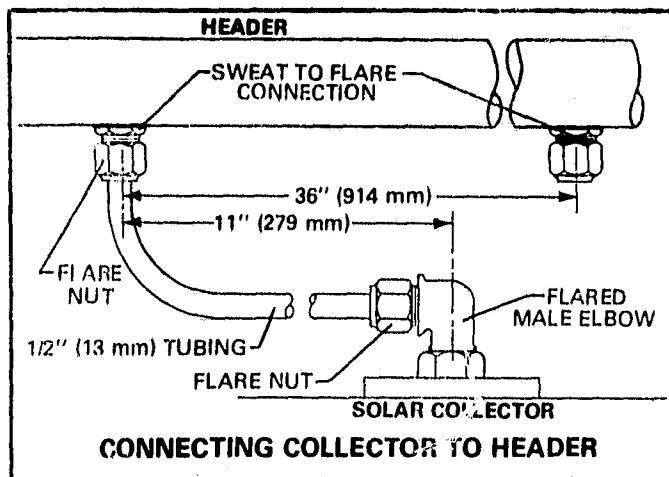
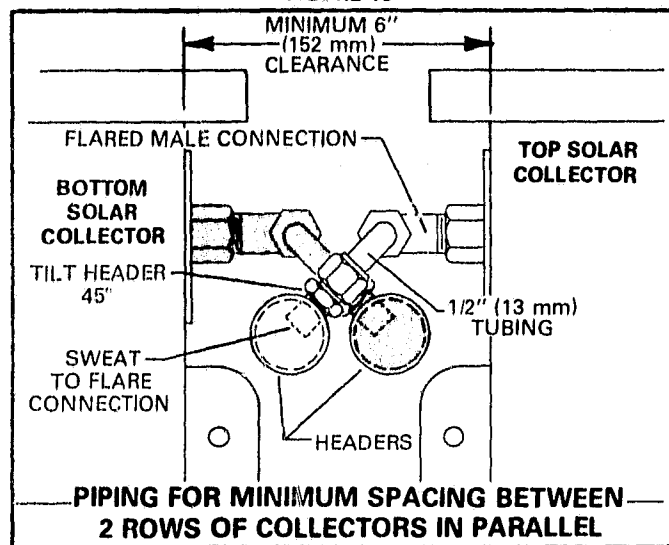

FIGURE 16
FIGURE 17
- b - A 3/8 inch sweat to 1/2 flare fitting must be soldered into each header at 36 inch intervals. Install a flare male elbow at the collector and connect piping as shown in Figure 16. In a two row parallel application, the return and supply headers can be piped according to Figure 17 to minimize collector spacing.